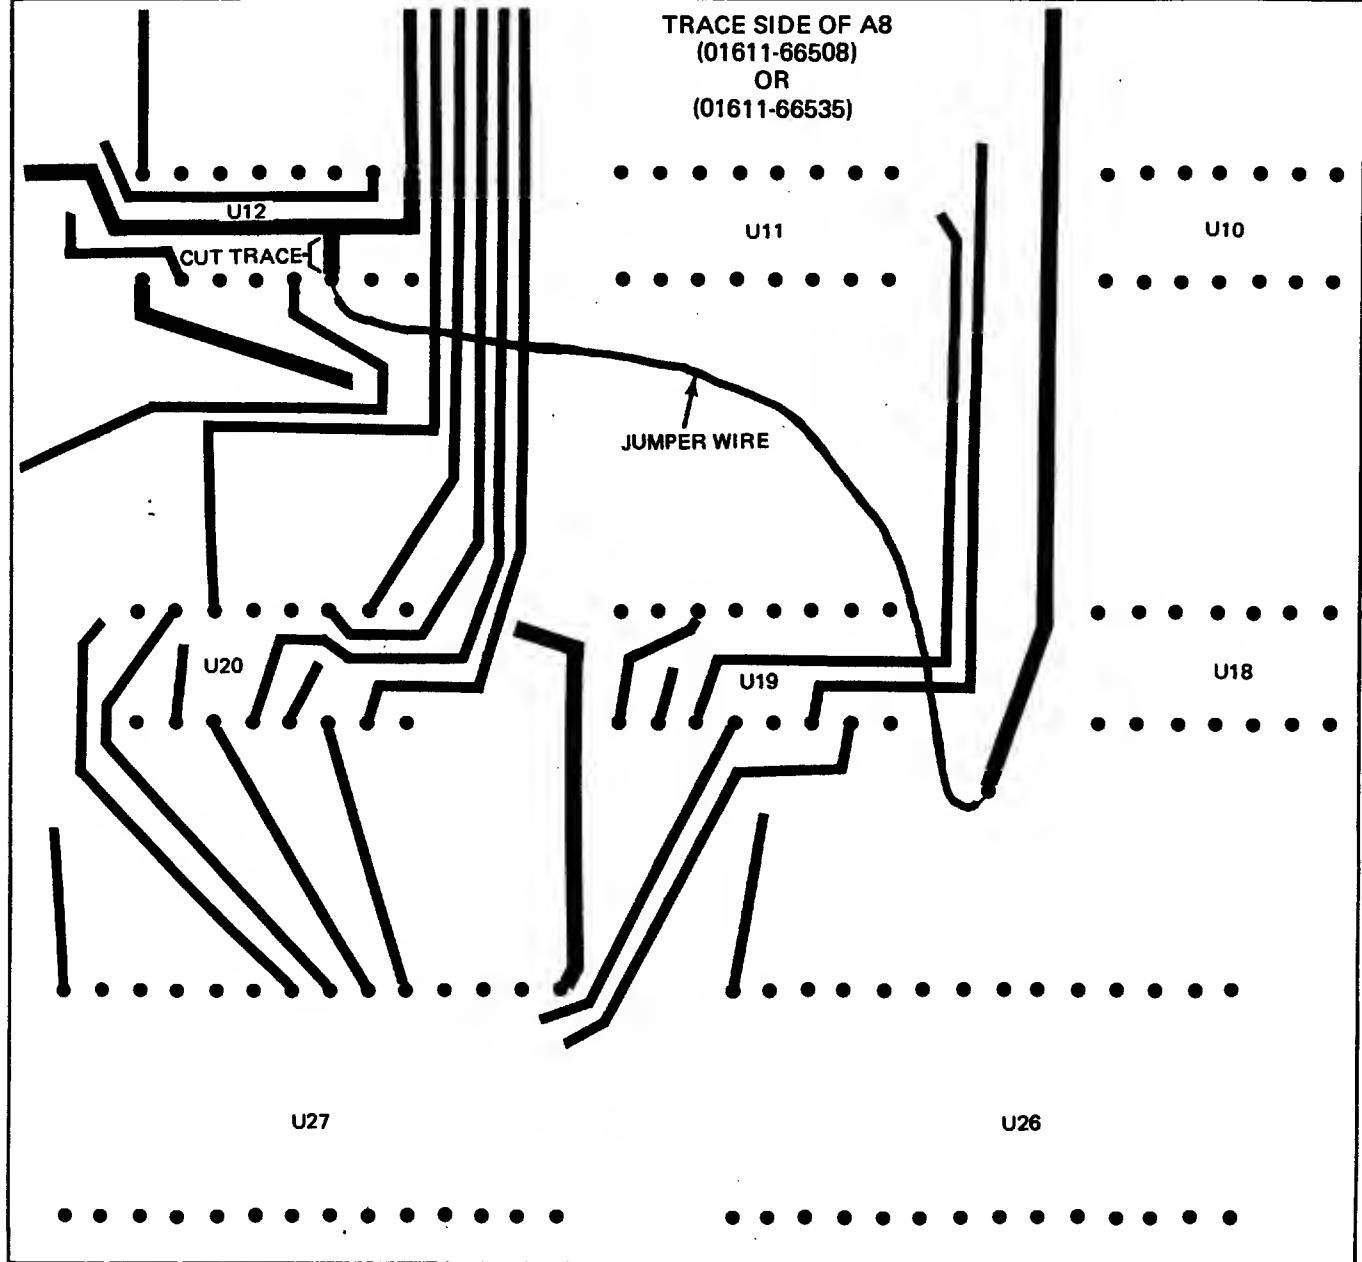

Figure 1.
2. Cut the trace between +5 volts and A8U12 pin 3 (See figure 1).
4. Install the jumper wire as shown in figure 1.